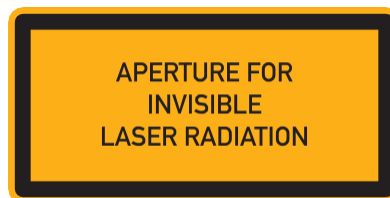

Figure 4.2.: APERTURE label
1. Affix the label from figure 4.2 on page 18 clearly visible near the laser aperture of the scan head.